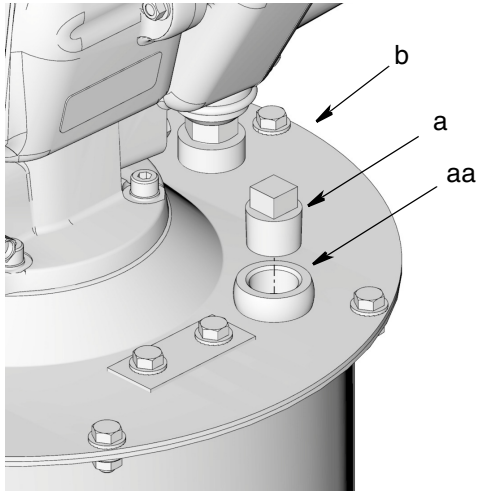
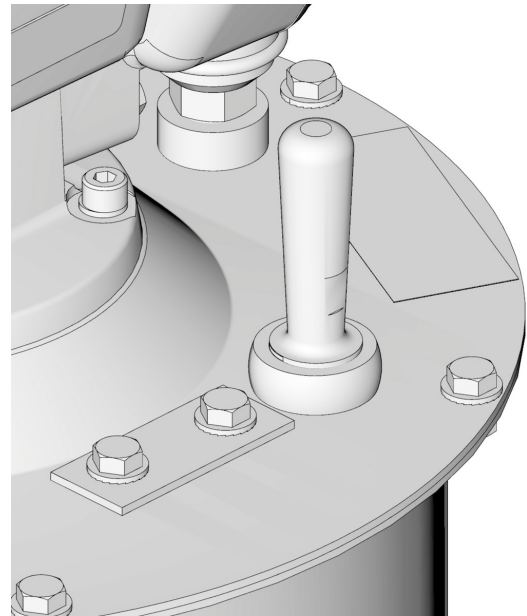

FIG. 18
FIG. 19
1. Remove plug (a) from cover (b). Discard plug, you will not reuse it (FIG. 18).
2. Slide dipstick through hole (aa) in cover (b) and into reservoir (FIG. 18 and FIG. 19). Wrench tighten it in place.